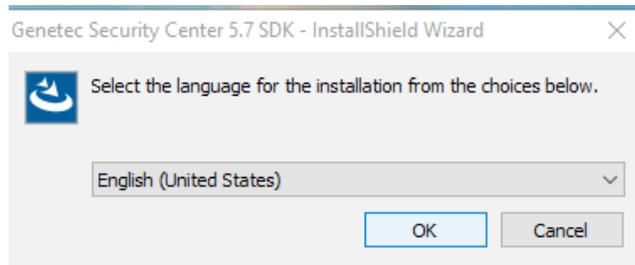

Figure 10
12. When the SDK Installation Wizard appears, click OK (Figure 10).